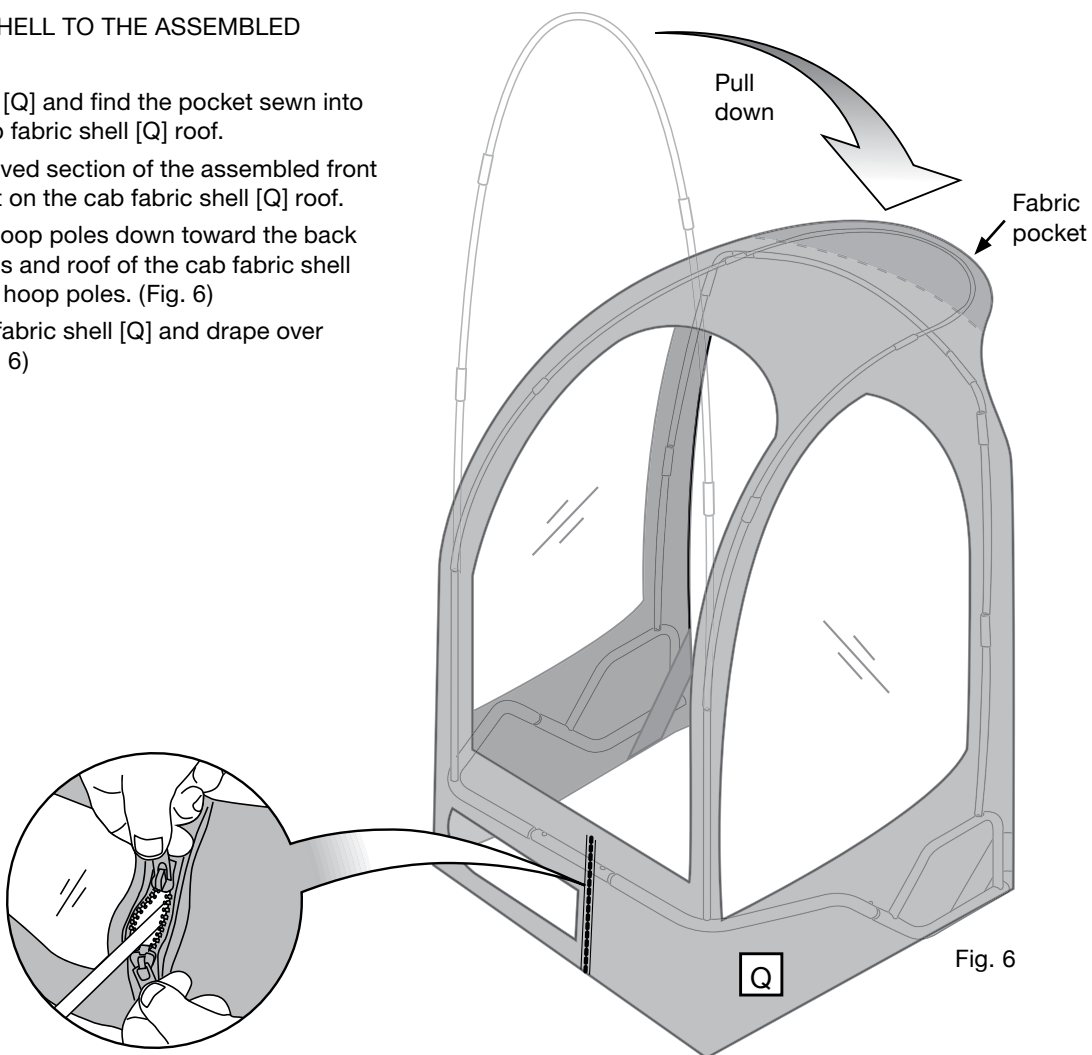

Fig. 6
INSTALL THE CAB FABRIC SHELL TO THE ASSEMBLED FRAME (FIG. 6)
17. Bend the fiberglass front hoop poles down toward the back so that the front hoop poles and roof of the cab fabric shell [Q] rest on top of the back hoop poles. (Fig. 6)
18. Unfold the rest of the cab fabric shell [Q] and drape over the assembled frame. (Fig. 6)